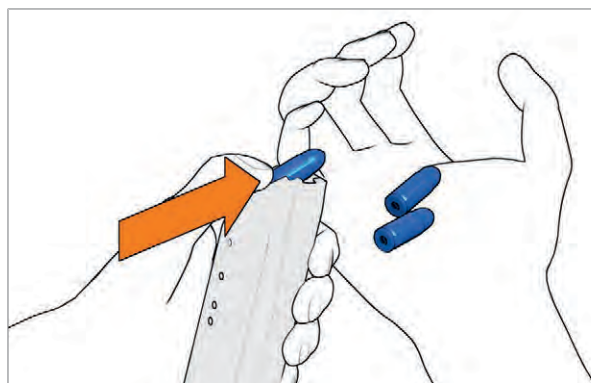

Fig. 47: Empty the magazine
- › Push cartridges forwards out of magazine (*Fig. 47*).